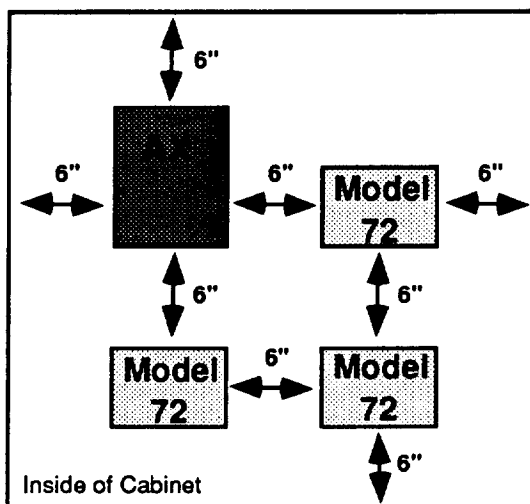

Figure 3-6. Vertical Clearance in Enclosure (Panel Mount)
1. The vertical clearance between the Model 72 and other equipment, or the top or bottom of the enclosure, should be no less than 6 inches (Refer to Figure 3-6).